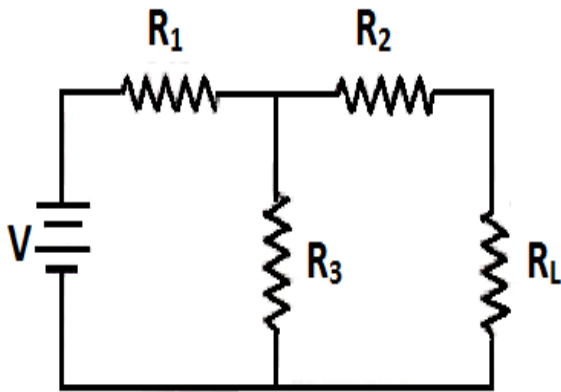
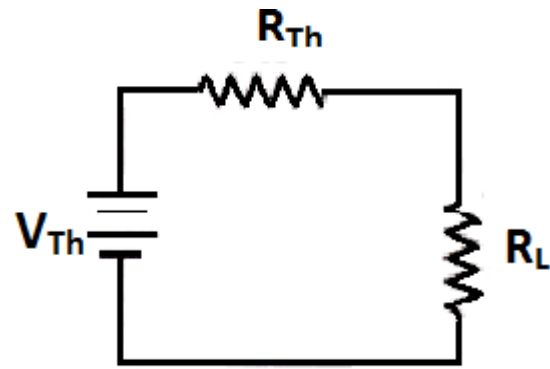

Figure 2
Figure 3
Let take a dc circuit as shown in figure 2. We have to find out the current through load I_L . According to Thevenin's theorem dc circuit as shown in figure 2 can be replaced by its Thevenin's equivalent shown in figure 3.
- 12 Make a circuit as figure 2 with load $100\ \Omega$.